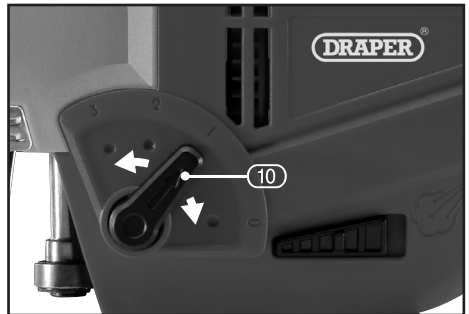

FIG.5
9.3 ORBITAL/PENDULUM ADJUSTMENT – FIG.5